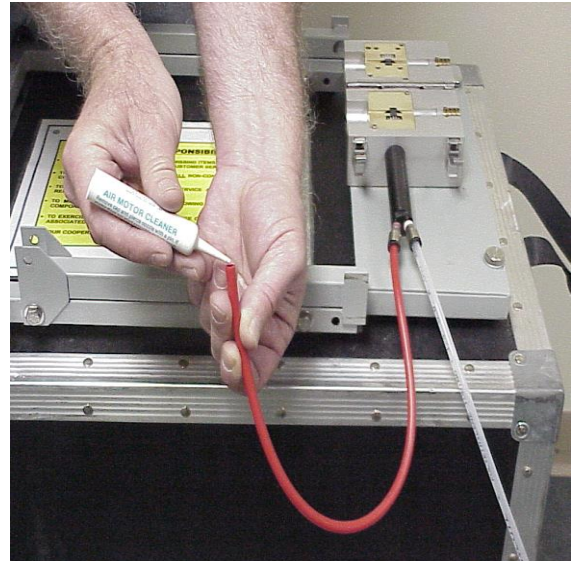

Figure 33
13.2.3 Cleaner Fluid application procedure begins by uncoupling Red 1/4" tubing from Filter / Regulator Assembly. Add 3 - 4 drops into open end of Red 1/4" tubing and re-connect to Filter / Regulator Assembly. **See Fig. 33.**